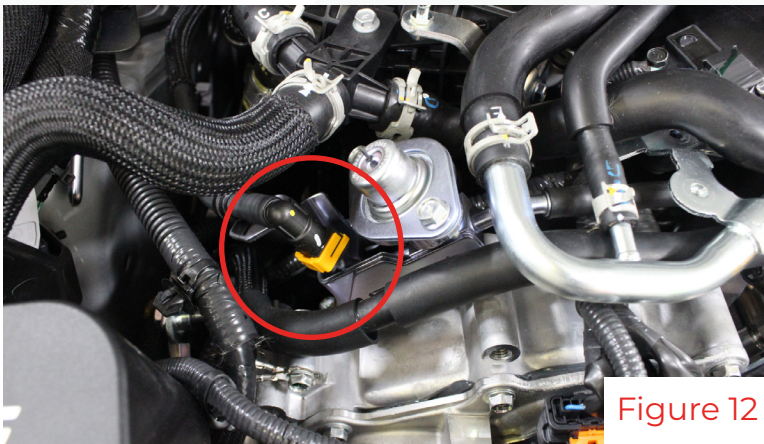
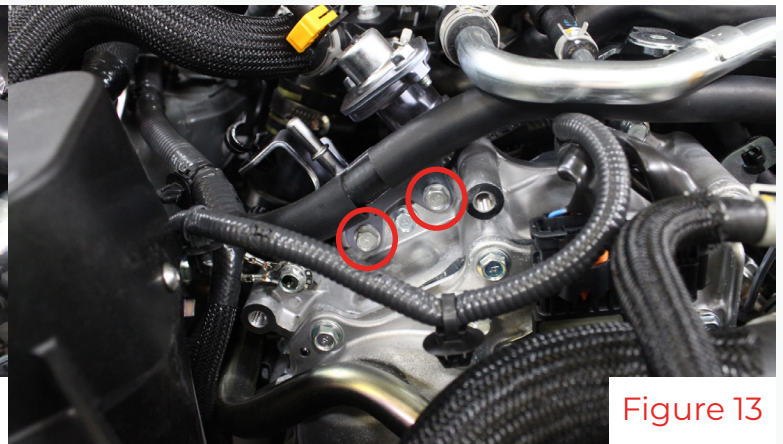

Figure 12
Figure 13
8. Release the yellow fuel line lock and disconnect the fuel line from the damper assembly(fig 12). Remove the two bolts mounting the damper assembly to the engine(fig 13).